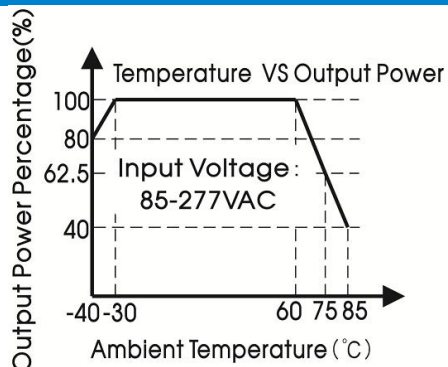

Figure 1
3. FIG. 1, 2, 4 and 5 are carried out under the condition of 25 CFM at a high temperature of 75 ~ 85°C;